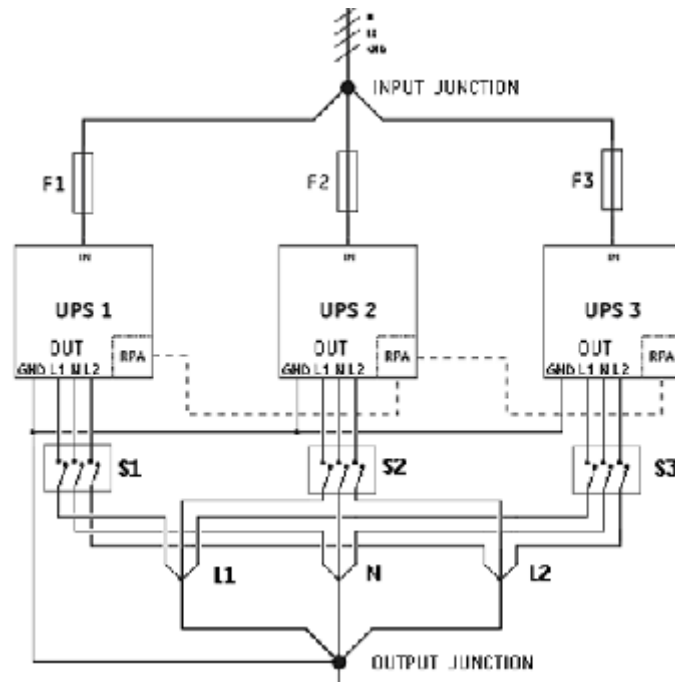

fig. 3.4.1
2. All outputs must be connected together, supplying the load. It is advised to install switches (S 1, 2, 3 fig 3.4.1) in the output wiring, in order to be able to isolate a unit from the remaining system for service and maintenance purposes.
4. The length of all input cables from the input junction (Li, fig. 3.4.1) to the UPS inputs should be equal. The same applies to the cables from the outputs to the output junction (Lo, fig. 3.4.1). The minimum length of the input as well as the output cables is 3 meters.